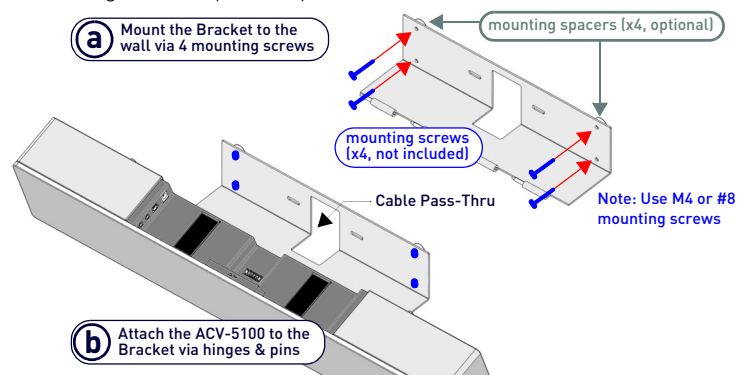

FIG. 6 WALL MOUNTING THE ACV-5100
- Mount the Bracket using mounting screws and optional mounting spacers (see FIG. 6).
Optionally, if not hiding them behind the drywall, place the four included Wall Mount Spacers between the Bracket and the wall to create a 5mm gap for routing flat cables (see FIG. 6).